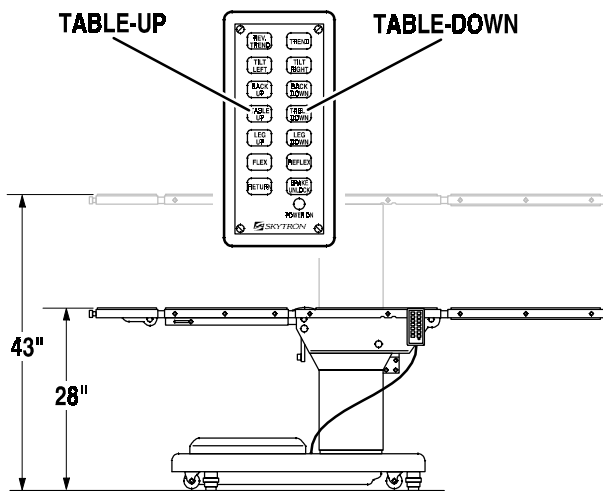

Figure 3-8. Elevation Function
f. Elevation. To raise table top, press the TABLE UP button (figure 3-8). The table will lift a patient weight of 500 pounds up to a maximum height of 43". To lower the table top, press the TABLE DOWN button. The table top will go down to a minimum height of 28".